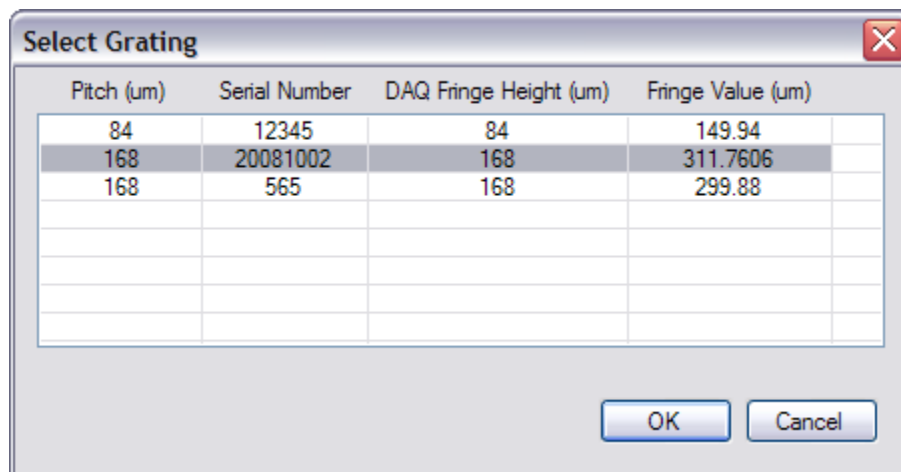

Figure 3.13 Select Grating Window
1. Check that correct grating was selected by clicking on the grating bar located at the bottom left of the information bar. A **Select Grating** window pops up showing a list of gratings added to the system. The desired grating should be highlighted (see **Figure 3.13**).